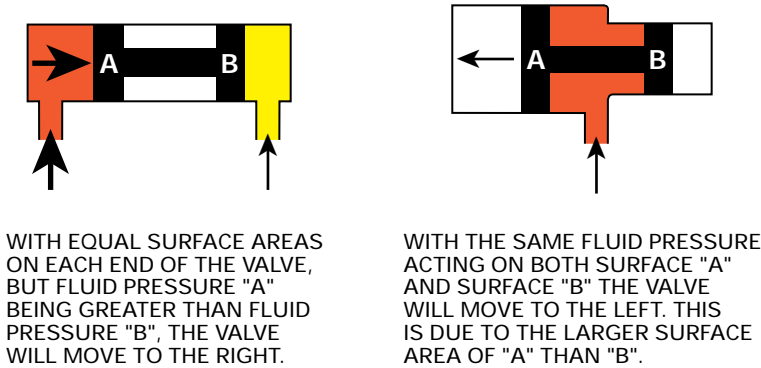

Figure 5
- Figure 5 (page 7B) provides a color coded chart that references different fluid pressures used to operate the hydraulic control systems. A brief description of how fluid pressures affect valve operation is also provided.